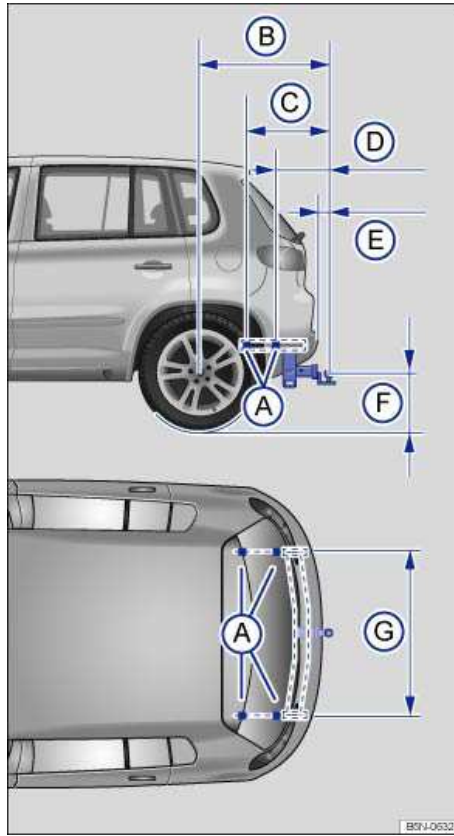

Fig. 112 Dimensions and attachment points for retrofitting a trailer hitch.
⇒ fig. 112 (F) be less than the specified minimum. This minimum height must be present even when the vehicle is fully loaded and subject to the maximum tongue weight.
Distance dimensions ⇒ fig. 112: